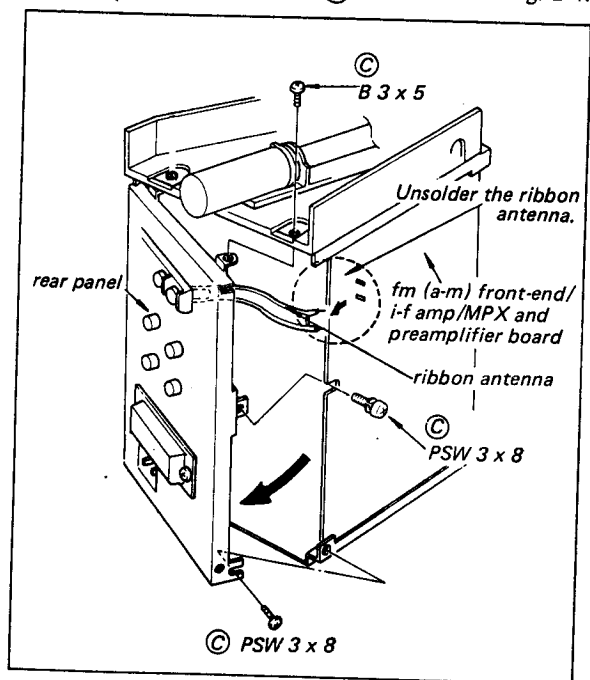

Fig. 2-6. Fm (a-m) front-end/i-f amp/MPX and preamplifier board removal
2. Unsolder the ribbon antenna at the fm (a-m) front-end/i-f amp/MPX and preamplifier board as shown in Fig. 2-6.
3. Remove the rear panel in the arrow direction by loosening the three screws (C) as shown in Fig. 2-6.
3. Unsolder the ribbon antenna as shown in Fig. 2-6.
4. Loosen the three screws (C) as shown in Fig. 2-6.
5. Carefully open the rear panel in the arrow direction shown in Fig. 2-6 taking care not to break the lead wires.